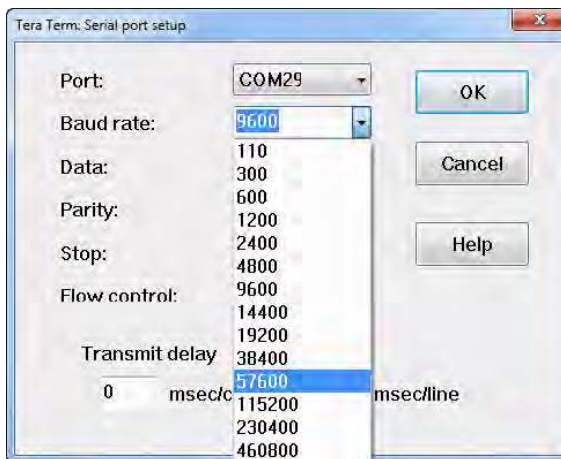

Figure 5. Baud Rate Selection
- The Tera Term Serial Port Setup dialog box will appear. Select 57600 from the **Baud Rate:** menu, as shown in Figure 5.